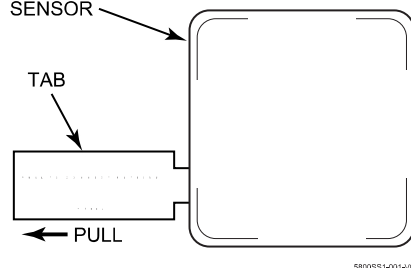

Figure 1
1. To cause the transmitter to transmit, remove the "PULL TO CONNECT BATTERY" tab (see Figure 1). (For additional transmissions, lightly tap on the base of the sensor with a screwdriver.)